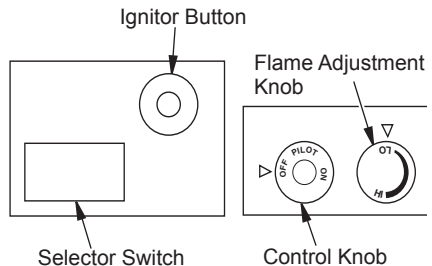

Figure 28 - Control Knob and Ignitor Button Location (Shown as Supplied, No Control Options)
- 5. Wait five (5) minutes to clear out any gas. Then smell for gas, including near the floor. If you smell gas, STOP! Follow "B" in the safety information, page 20. If you don't smell gas, go to the next step.
- 6. Press in and turn control knob counterclockwise  to the PILOT position. Press in control knob for five (5) seconds (see Figure 28).